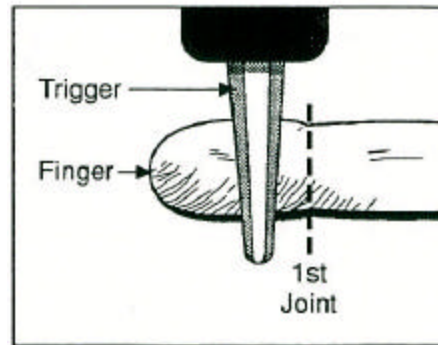

Figure 3
- (1) Finger Placement. To begin proper trigger control, the shooter must first properly place the index finger on the trigger. The index finger is placed in the middle of the trigger at the most rearward curved portion, to apply pressure to the trigger. The trigger should cross the finger approximately halfway between the tip of the finger and the first joint, over the swirl of the fingerprint. (See figure 3.)